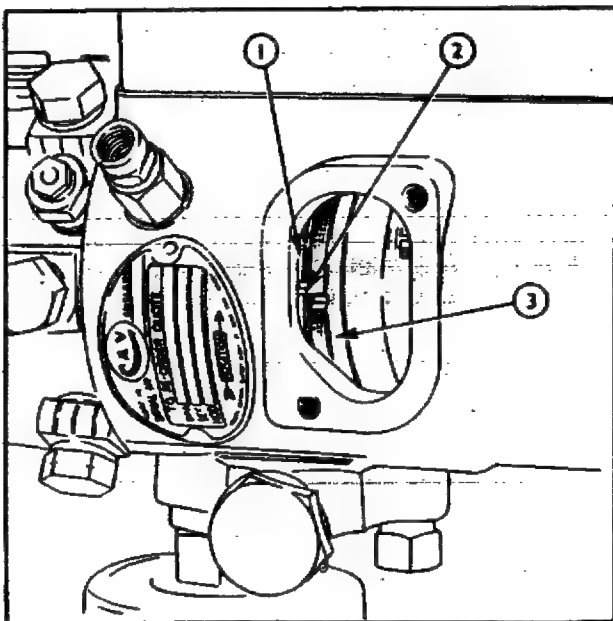

Fig. 94 1 Cam Ring
2. Turn the injection pump until the timing marks on the drive plate and cam ring are in alignment (see Fig. 94).